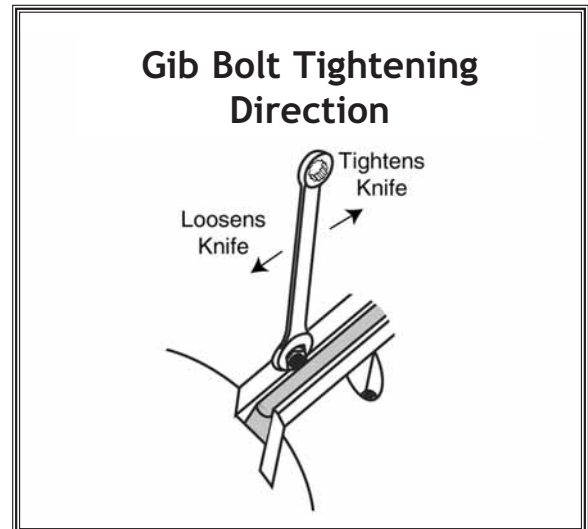

Figure 30. Gib tightening.
9. Lightly snug gib bolts (**Figure 30**) to hold the knife in position.